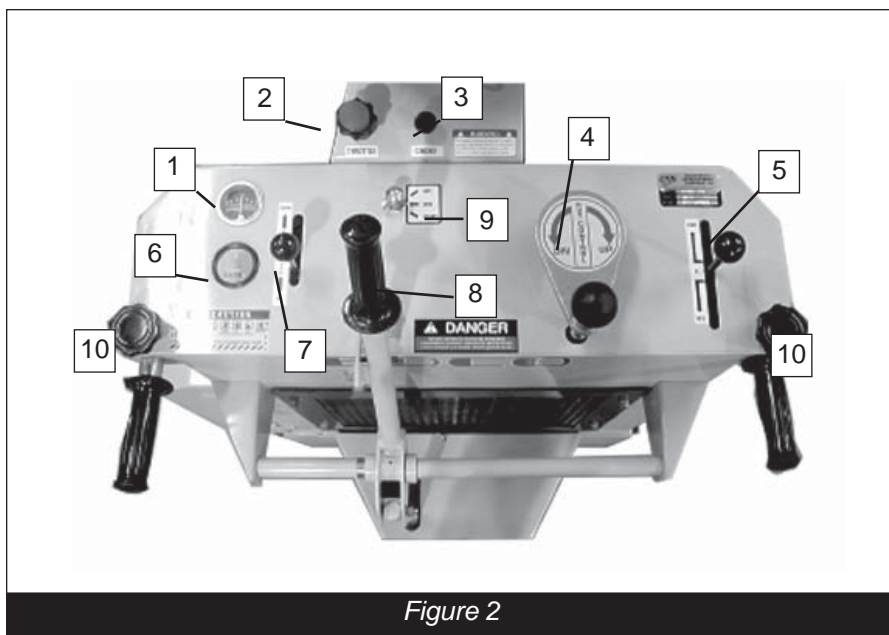

Figure 2
- Locate and be familiar with all engine and operating controls (*Figure 2*).
- Adjust the extendable handles for operator comfort and safe operation. Be sure to retighten handle locks once handles are positioned. (*Figure 2*, Item #10)
- Be sure cutter head is raised to the full “up” position using the drum lift lever on the console. (*Figure 2*, Item #7) This EDCO Scarifier uses a battery powered hydraulic pump.